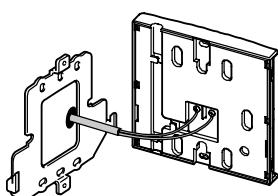
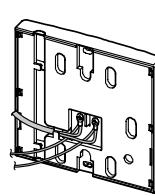

Fig. 3
Fig. 4
- Connect the cable to the water controller as shown in Fig 3. At this point cables from other controllers (if fitted) may also be connected to the screw terminals of the Kitchen water controller (Fig. 4) eliminating the need for multiple cable runs directly to the water heater. Water controllers are not polarity sensitive. Feed any excess cable lengths into the wall cavity to avoid the pinching of cables between the wall and the controller.